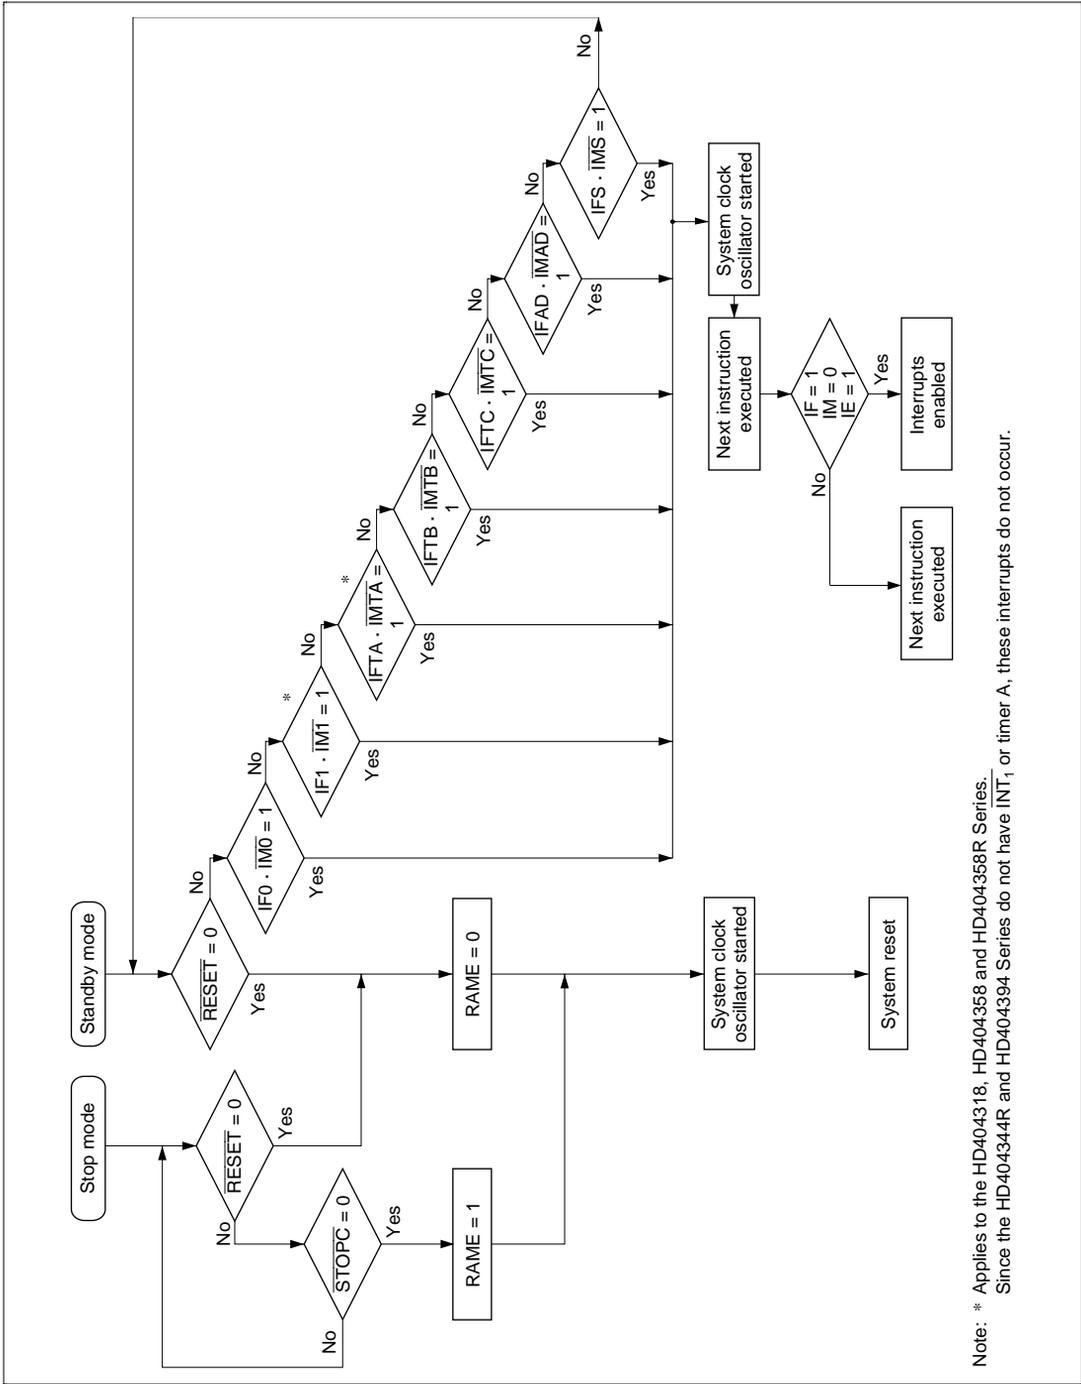

Figure 5-2 Flowchart for Exiting Low Power Modes
- (1) Clearing with a $\overline{\text{RESET}}$ Pin Input:** When the $\overline{\text{RESET}}$ pin goes low the system enters the reset state and standby mode is cleared.
- (2) Clearing with an Interrupt:** Standby mode is cleared and the system enters active mode when an interrupt occurs with its corresponding interrupt flag (IF) set to 1 and its interrupt mask (IM) cleared to 0. After the transition the instruction following the SBY instruction is executed. If the interrupt enable flag (IE) is 1, the corresponding interrupt handler will be executed. If IE is 0, the interrupt is deferred and the execution of the immediately preceding instruction sequence continues. Figure 5-2 shows the flowchart for the sequence that occurs when low power modes are cleared.
Note: See figure 5-2, "Flowchart for Exiting Low Power Modes", for details on IF and IM operation.